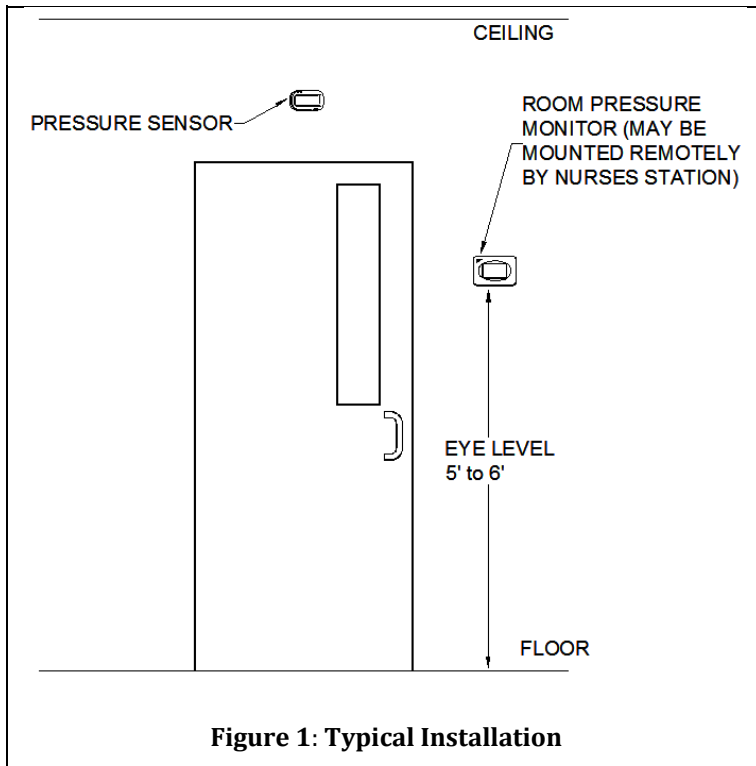
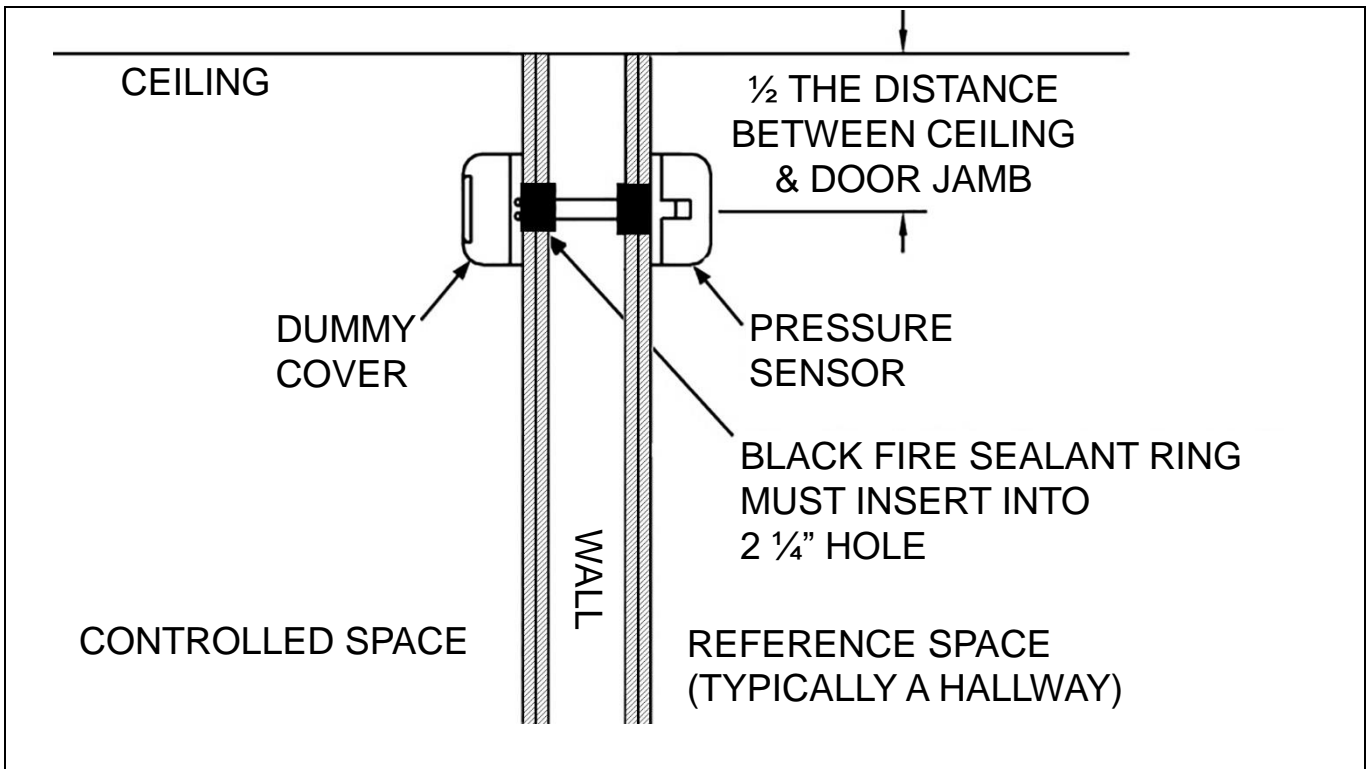
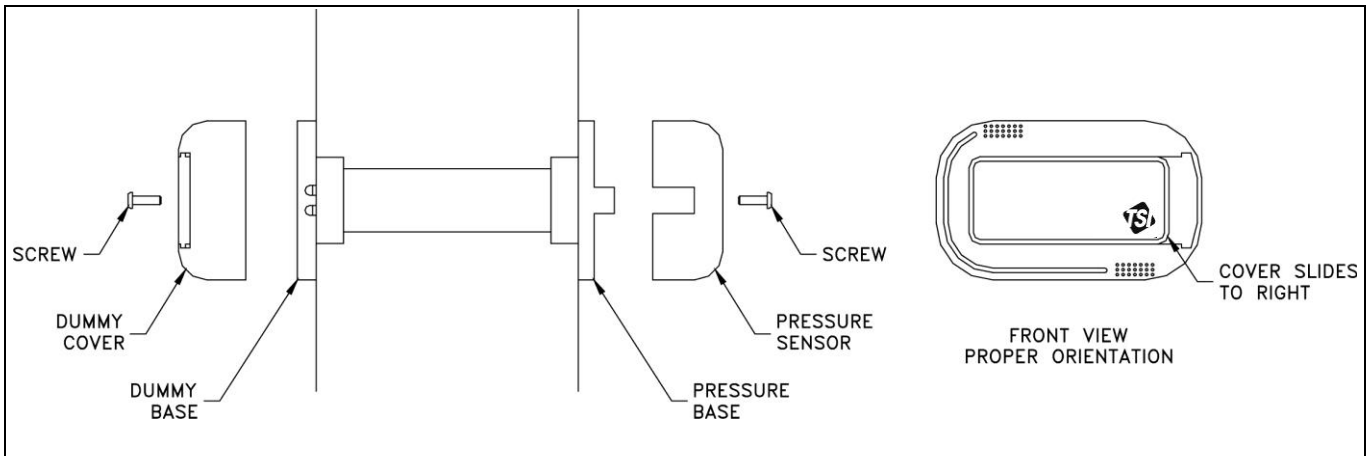
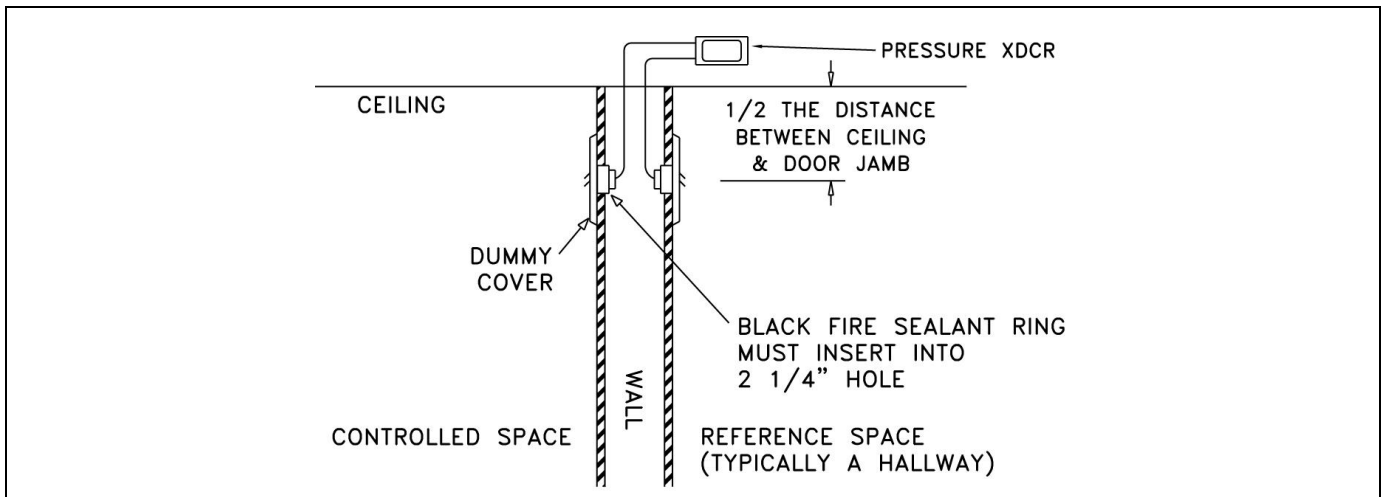

Figure 1: Typical Installation
Figure 3: Cutaway View of Mounted Pressure Sensor
Figure 4: Pressure Sensor Mounting
Figure 5: Cutaway View of Mounted Pressure Transducer Assembly
800243 pressure sensor must be mounted through the wall between the controlled space (isolation room) and referenced space (hallway), exactly as shown in Figure 3 and Figure 4.
- Determine pressure sensor location (Figure 1, Figure 3, and Figure 4). Pressure sensor typically mounts in the reference space, and the dummy housing mounts in the isolation room.
- From the side of the wall the sensor will be mounted, slide the sensor tube through the wall. Slide the dummy base over the end of the tube. Screw the pressure sensor base and dummy base to the wall (Figure 3 and Figure 4).
- Install and screw the pressure sensor and dummy cover onto the bases. Slide covers to the left to hide the sensor. Finished installation should look as shown in Figure 4.
801913 pressure plates must be mounted in the wall between the controlled space (clean room) and referenced space (hallway), exactly as shown in Figure 5 and Figure 6. This installation is not representative of the through penetrating product tested under UL.
- Install pressure transducer in desired location (typically above ceiling). The transducer must be mounted on a wall in the correct position per Figure 5 (screws not provided). **DO NOT** mount pressure transducer to duct or other vibrating surface.
- Determine pressure sensor location (Figure 1, Figure 5 and Figure 6). Pressure sensor typically mounts in the reference space, and the plate mounts in the clean room.
- Insert the pressure plate into the hole in the wall. Screw the pressure plate to the wall. The finished assembly should look like Figure 5.
- Select the mounting location of the pressure monitor. The construction plans normally show the mounting location. If no location is specified, then the unit is typically installed as shown in Figure 1. Alternate mounting locations are nurses' station, other staff areas, etc.